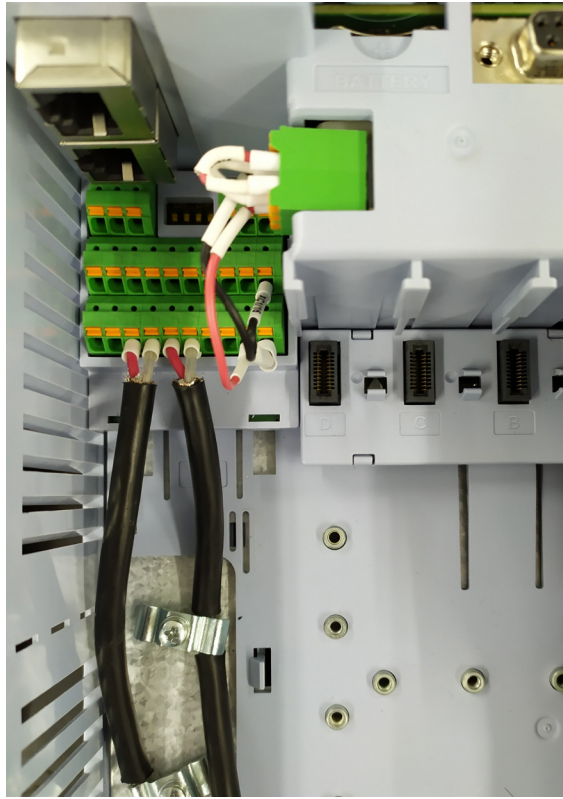

Figure 3.35: Connection example of control cable shield
- Correctly ground the shield of the cables, using the shield connection in 360°, as shown in Figure 3.35 on page 66.